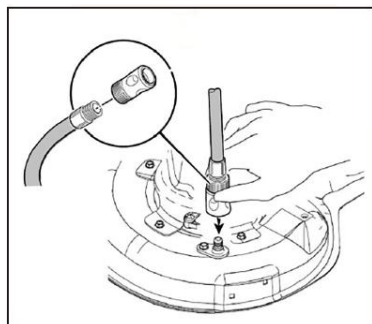

Fig.22
6. Engage the Power Take-Off (PTO) to activate the mower blades. The rotation of the blades and the water will clean the bottom of the mower deck.(Fig. 22)